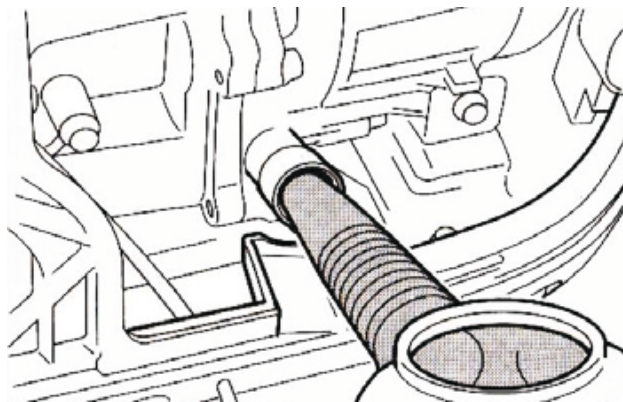

Figure 3
Using the funnel (provided) fill with 0.42 quart of SAE 10W-30 or 10W-40 (provided) (see figure 3). See figure 4 for proper oil level ①.